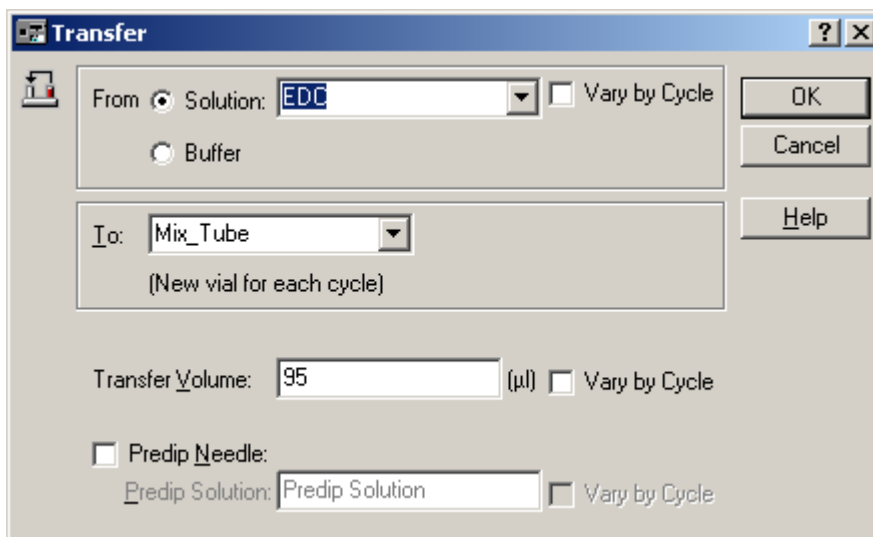

Figure 2.6
- 2.9.2 Transfer window (Fig. 2.6) will open.
- 2.9.3 Type in the information as shown in the Transfer window (Fig 2.6).